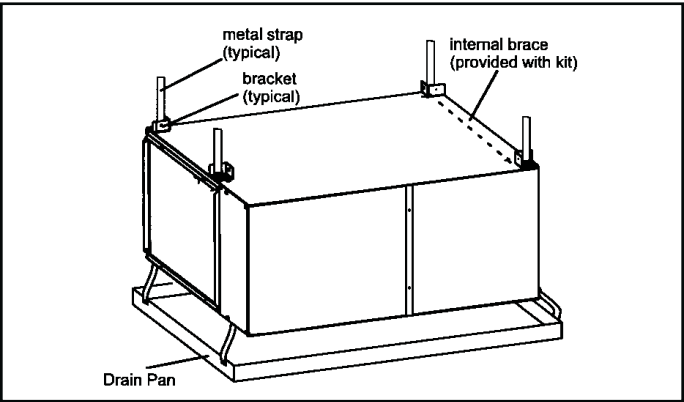
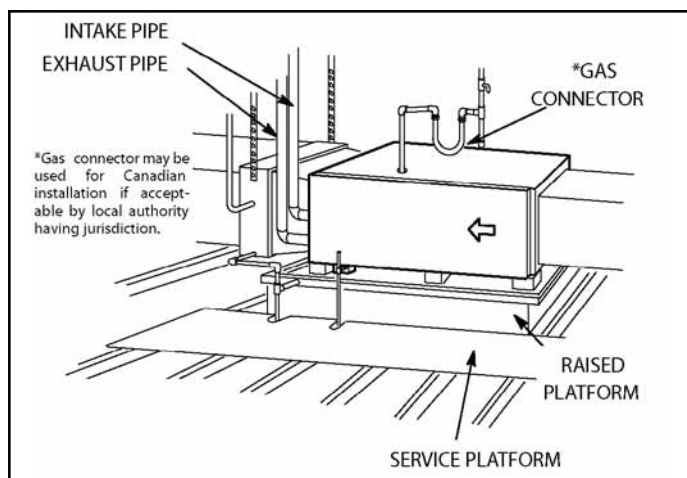

Figure 12. Typical Horizontal Application
Figure 13.
This furnace may be installed in either an attic or a crawlspace. Either suspend the furnace from roof rafters or floor joists, as shown in Figure 12 or install the furnace on a platform, as shown in Figure 13.
2. Construct a raised wooden frame and cover frame with a plywood sheet. If unit is installed above finished space, fabricate an auxiliary drain pan to be installed under unit. Set unit in drain pan as shown in Figure 13. Leave 8 inches for service clearance below unit for condensate trap, unless trap is installed remotely.